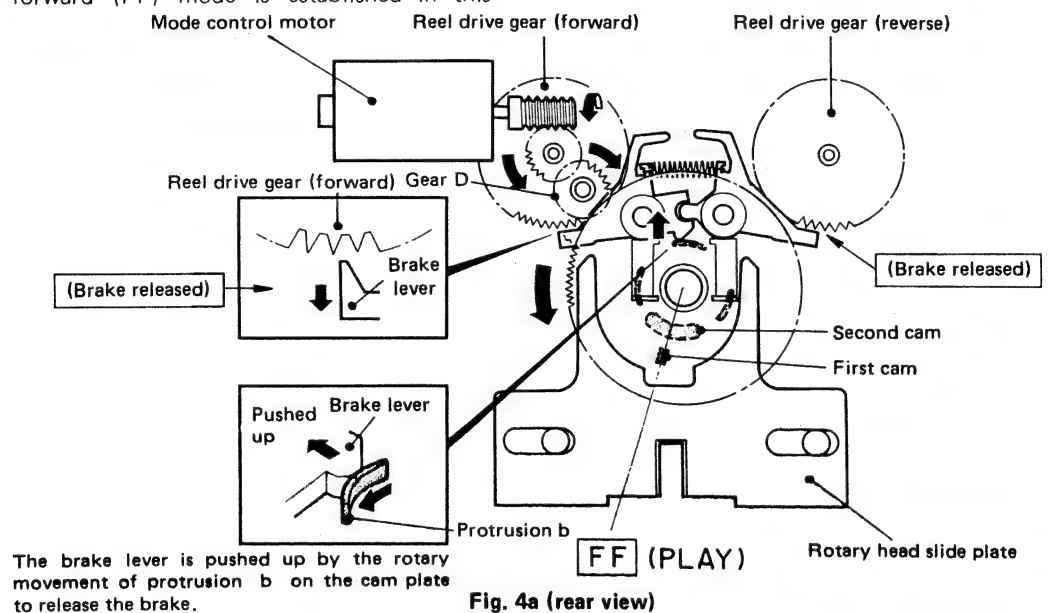

Fig. 4a (rear view)
- 1) When the FF button is pressed, the controller drives the mode control motor to rotate the cam disc plate in the direction of the arrow in Fig. 4a.
- 2) Thereby, the brake cam turns slightly clockwise and lifts up the triangular protrusion of the brake so that the brake is released as shown in Fig. 4a.
- 3) In addition, when the cam disc plate turns to the position shown in Fig. 4a, the fast forward (FF) mode code is generated by its associated code pattern. When the controller detects this code, it issues an instruction to stop the voltage applied to the mode control motor. Thereby, the mode control motor stops. The fast forward (FF) mode is established in this manner.